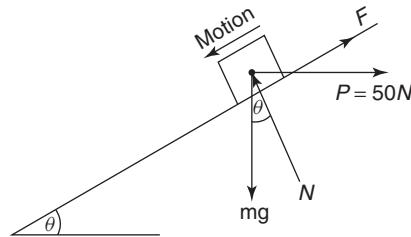

Figure 15.12
The primary forces for this problem are shown in Figure 15.12, where it can be seen that F is opposite to the direction of motion.
11. Determine the value for θ which will just cause motion down the plane, when $P = 250 \text{ N}$ and acts in the direction shown in Figure 15.12. It should be noted that in this problem, motion is down the plane. [$\theta = 19.85^\circ$]